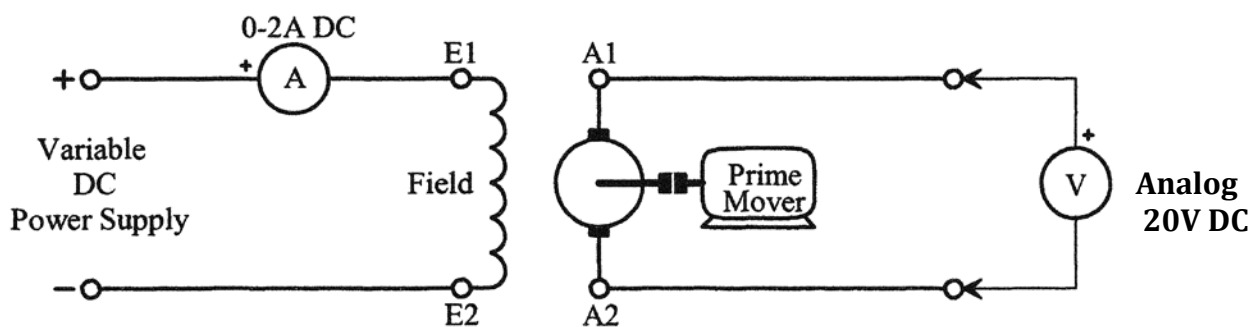

Figure 2
2. Connect the generator as shown in figure 2.